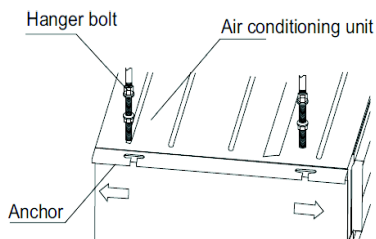

Fig. 8 – Install the Hanger Bolts
1. **INSTALLING HANGER BOLTS** – Install the hanger bolts at the locations (see Fig. 8, top view). Use a Ø0.39in. (10mm) all-threaded rod.